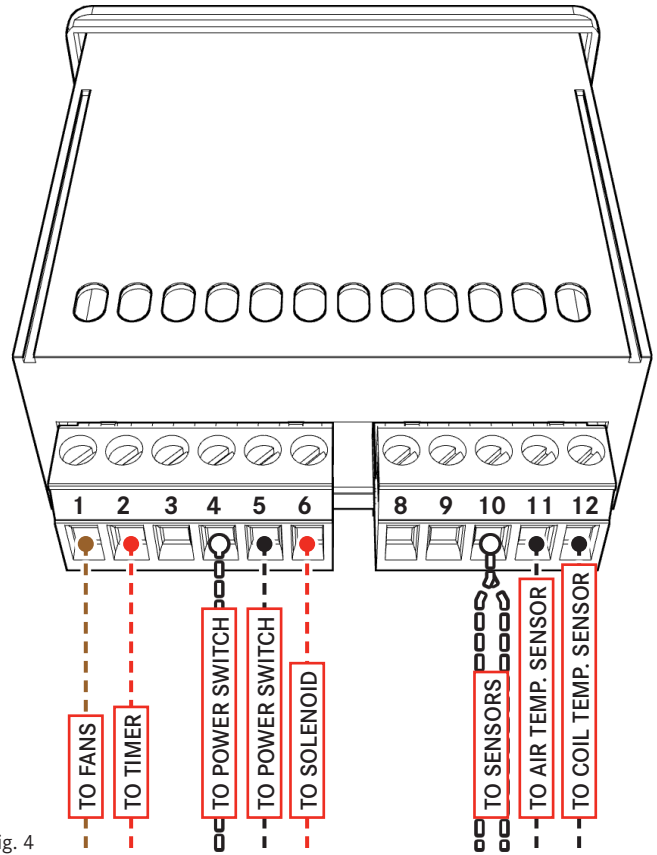

Fig. 4
5. Install in reverse order. Refer to Fig. 4 through 8, as well as Tables 1 through 5, for connection points to each controller and power ON/OFF switch.